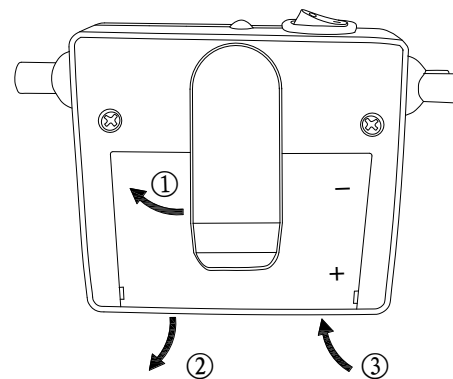

Figure 3
4. Battery changing: ①move the clip to the left or right; ②press the opener and push it out; put the batteries in according to the "+" "-" signs inside; ③ put the opener on and push it back. See figure 3.